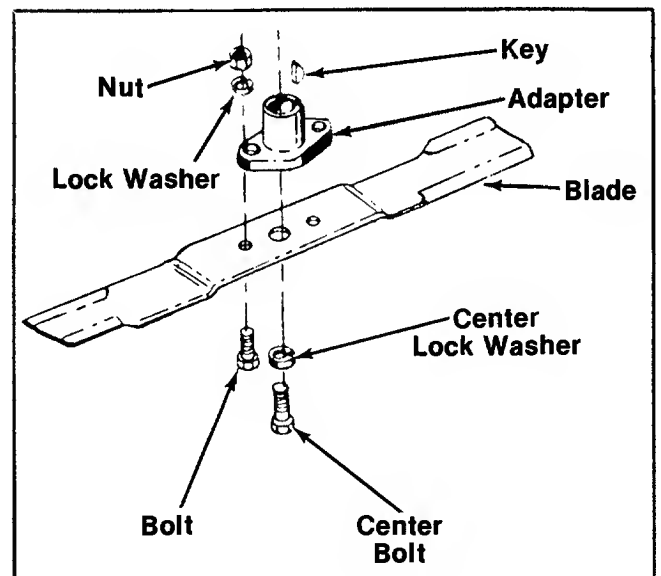

FIGURE 17.
1. Remove the large bolt and lock washer which holds the blade and adapter to the engine crankshaft. See figure 17.